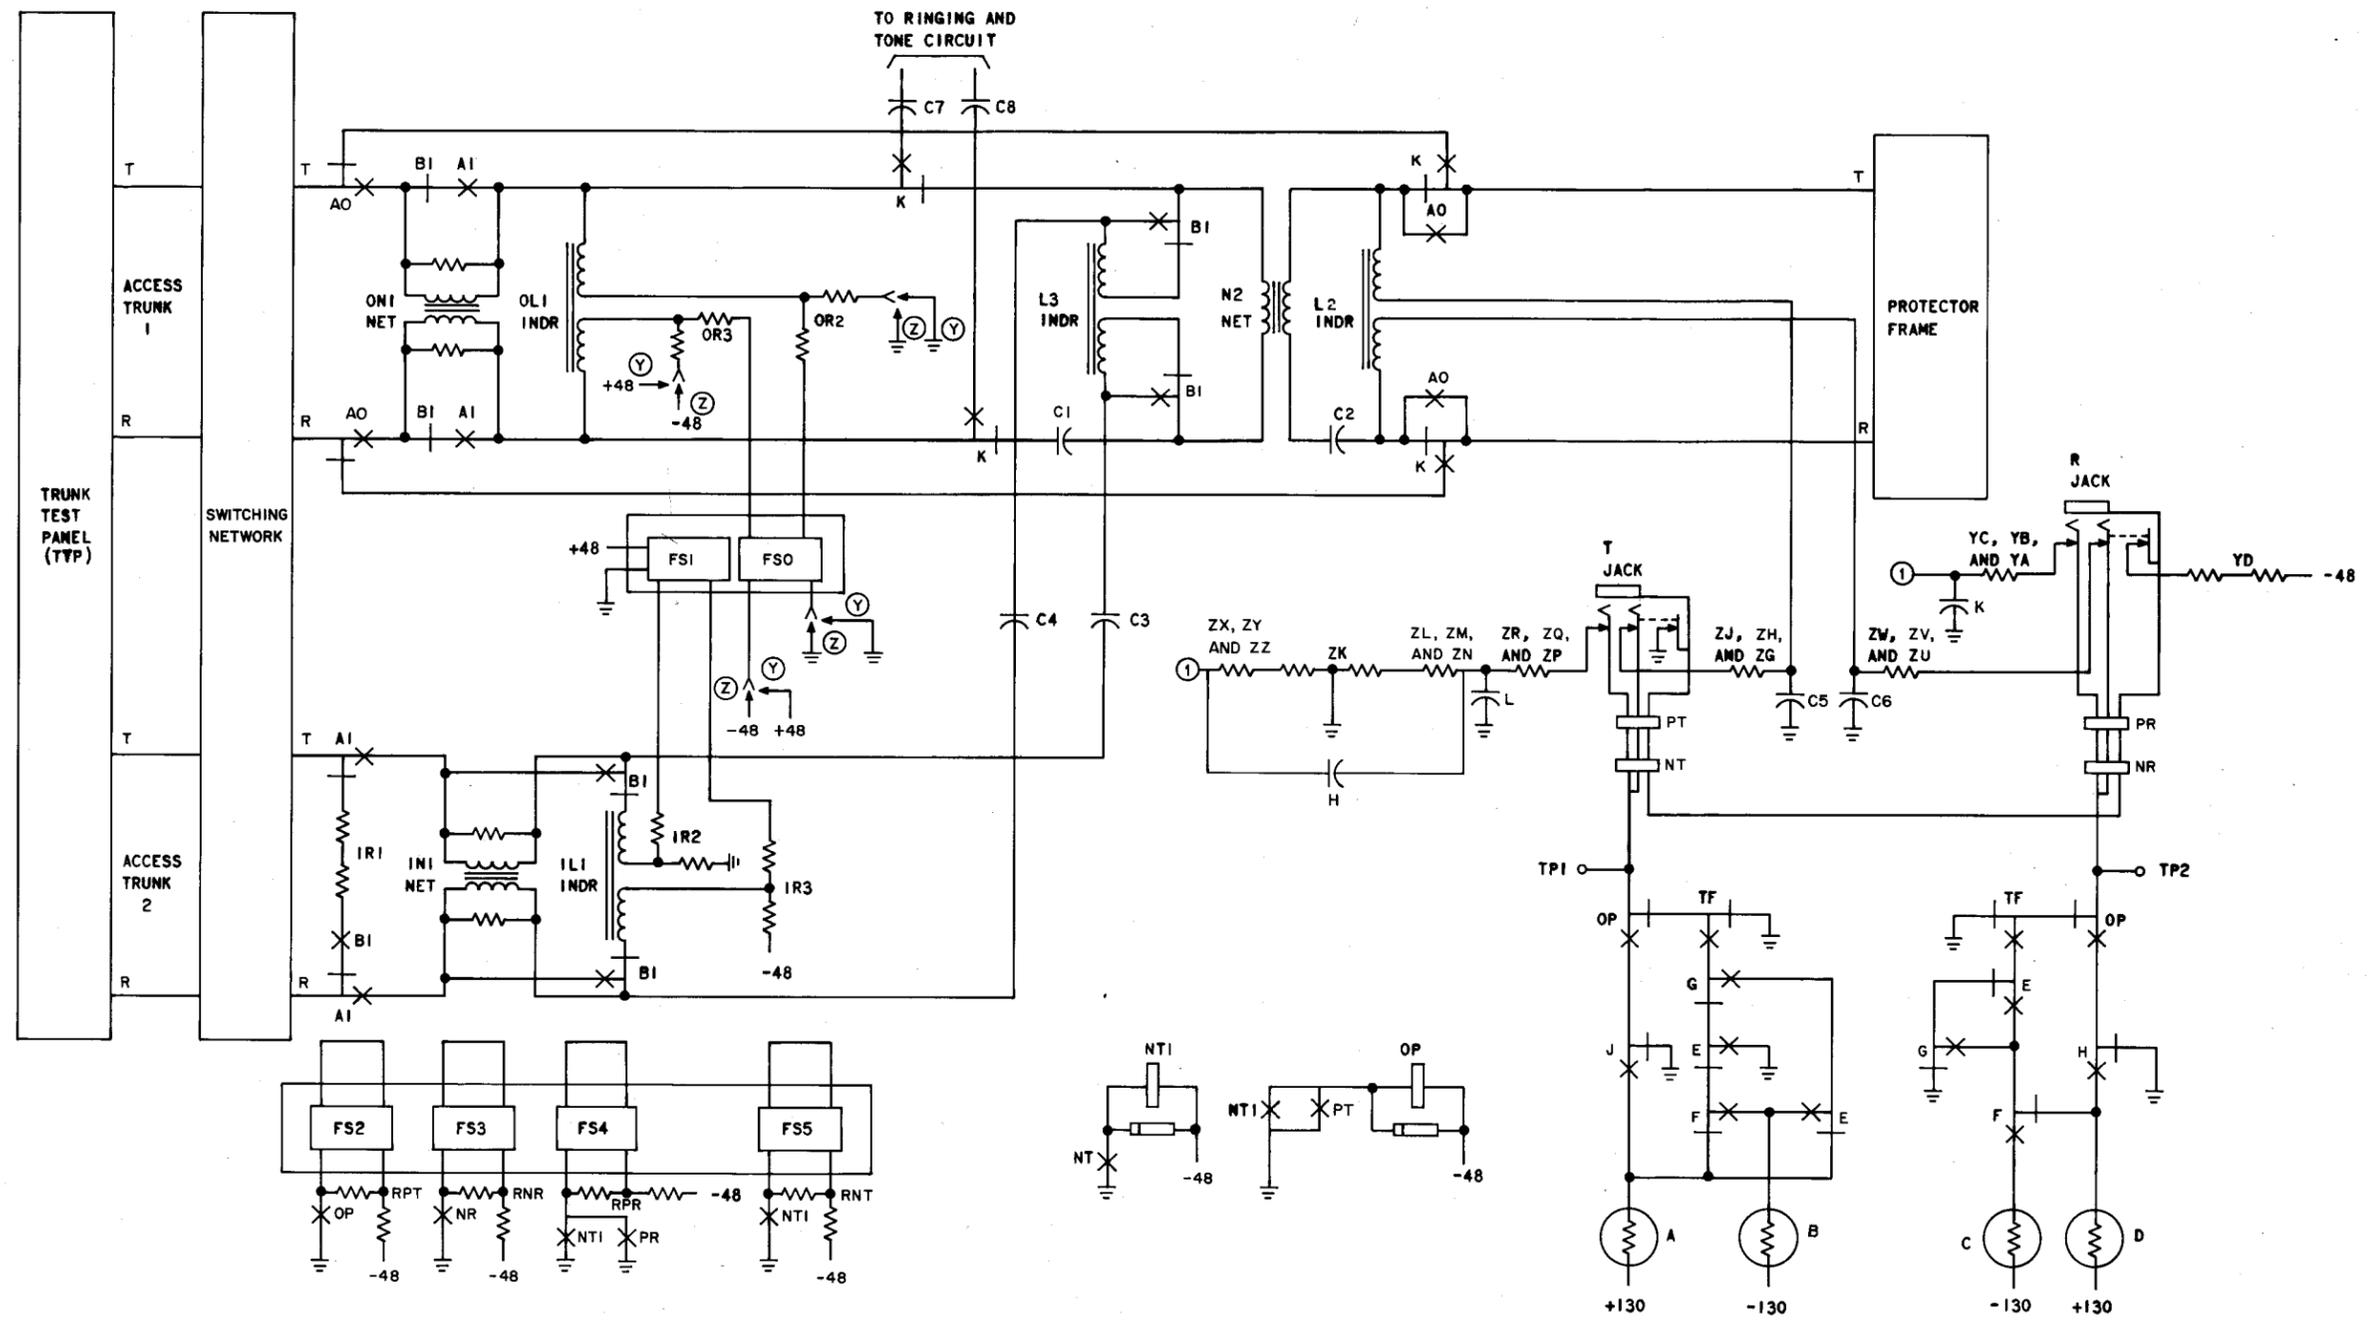

Fig. 1—Outgoing Trunk Circuit (SD-2H151)
3.03 The following is a step-by-step procedure to make the outgoing trunk circuit traffic busy and connect it to the TTP (Fig. 1).